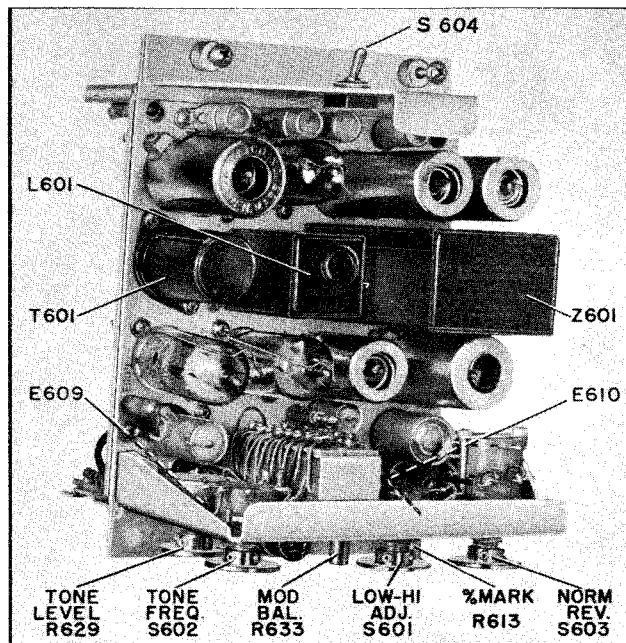
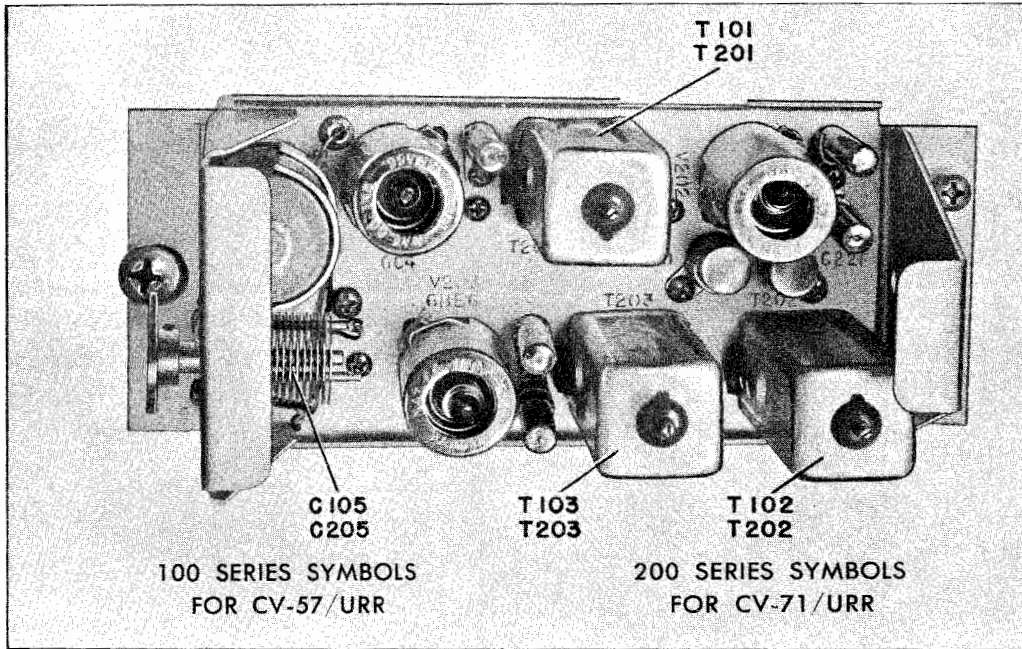
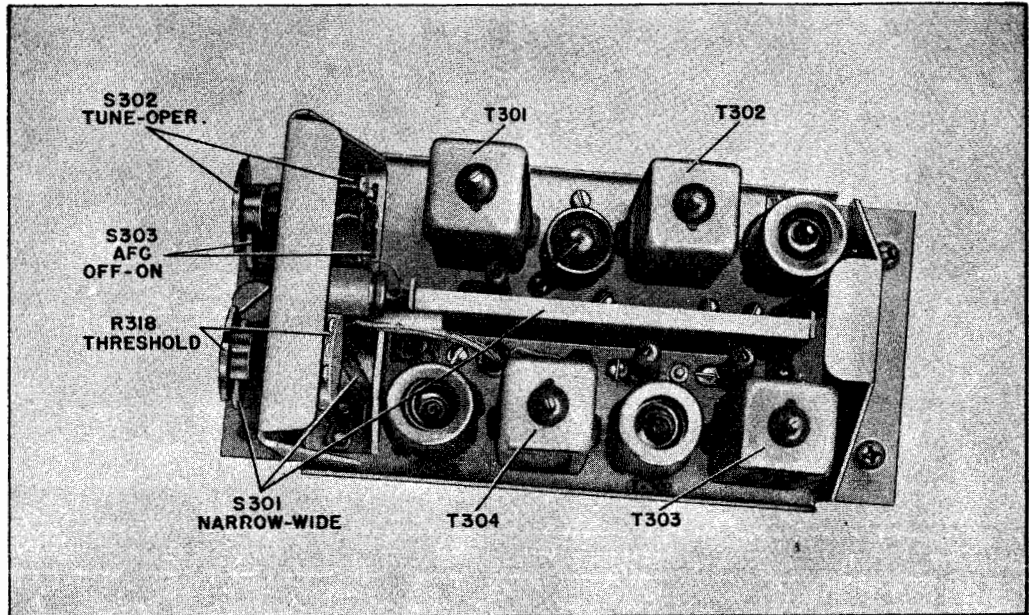

Figure 7-9. Keyer Chassis, Top View
Figure 7-11. Input Unit, Top View
Figure 7-13. I-F Unit, Top View
e. INPUT UNIT.—See Figures 7-11 and 7-12. Check the tubes, then circuit-check the unit for shorts, open circuits, or off-value parts (see Figures 7-34, 7-35, 7-38, 7-39, and Tables 7-3 and 7-4). If the trouble is not located, use the following procedure.
(1) Apply a 400-kc signal (for CV-57/URR or AN/URA-6 equipments) or a 50-kc signal (for AN/URA-7 equipment) of about 0.01 volt to the i-f input, pin 8 of plug P101 or P201 as the case may be. Set the NARROW-WIDE switch to NARROW. Connect an external test oscilloscope to the plate pin 5 of converter tube V103 or V203. If no signal is observed, check for incoming signal on pin 7 or local-oscillator input on pin 1. Absence of signal in either case indicates direction of trouble:
(2) If no signal appears on pin 7 of V103 (or V203), check the circuit by connecting test oscilloscope to terminal D of transformers T102 (or T202) and T103 (or T203) in that order.
(3) If no signal appears on pin 1 of V103 (or V203), remove tube V103 (or V203) from its socket. If signal then appears, the trouble is in the AFC circuits.
f. I-F UNIT.—See Figures 7-13 and 7-14. Check the tubes, then circuit-check the unit for shorts, open circuits, or off-value parts (see Figures 7-36, 7-37, and Table 7-5). If the trouble is not located, use the following procedure.
(1) Apply a 40-kc signal of about one volt to pin 10 of plug P301 or, if the Input Unit is known to be in operating order, apply a signal to the I-INPUT jack J1111 (400 kc for CV-57/URR or AN/URA-6 equipment, 50 kc for AN/URA-7 equipment). Place switch S301 in WIDE position.
(2) With the test oscilloscope, check for presence of signal successively at V302 pin 1, V301 pin 1, V301 pin 1, T301 terminal D. Absence of signal at one of these points indicates trouble in the related circuit.
(3) Place switch S302 in TUNE position. Connect a VoltOhmyst or equivalent indicating meter to pin 7 of V303. Vary the input-signal frequency. The meter should trace out the discriminator curve. Changing the input-signal level between 2500 microvolts and 0.5 volt should not change the discriminator curve amplitude.
g. KEYER UNIT.—See Figures 7-9 and 7-10. Check the tubes then circuit check the unit for shorts, open circuits or off value parts (see Figures 7-42, 7-43 and Table 7-6). Switch S604 (on the rear bracket) must be in the ON position for the teletypewriter to operate. The switch, in the OFF position, opens the screen grid circuit of the output tubes when the Keyer is not connected to a teletypewriter.
Connect a 0.5-volt source of 60-cycle sine-wave voltage to P601-14 or E609 and ground. Proceed from stage to stage, using the test oscilloscope as an indicator (see Figures 7-9 and 7-10).